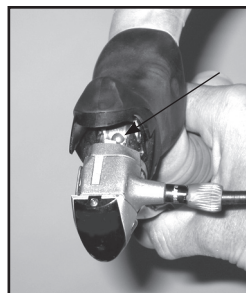

Figure 6 Leaded end of cable in the brake lever
4. Make sure the leaded end of the cable is properly seated in the brake lever (Figure 6).